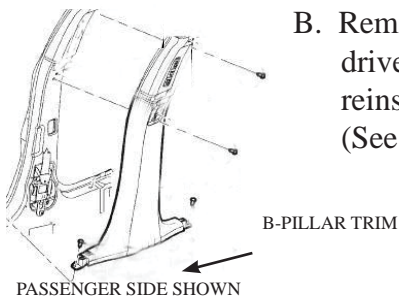

Fig. 1
- A. Remove B-pillar trim on the driver and passenger-side. These will be reinstalled after bracket installation. Note: From the head liner down the trim is held in place by snap fasteners but the top of the trim panel is held in place with a screw. Pull head liner down and away from the trim panel and use a T15 torx driver to remove the screw. (See Fig. 1)